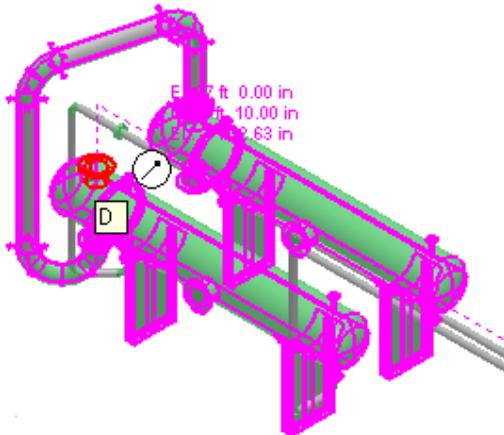

Figure 30: Reference Point for Pasting the Objects
7. SP3D prompts you to select the reference point within the selected set of objects. Select the pipe nozzle **D** on equipment **40E-101A**, as shown in Figure 30.